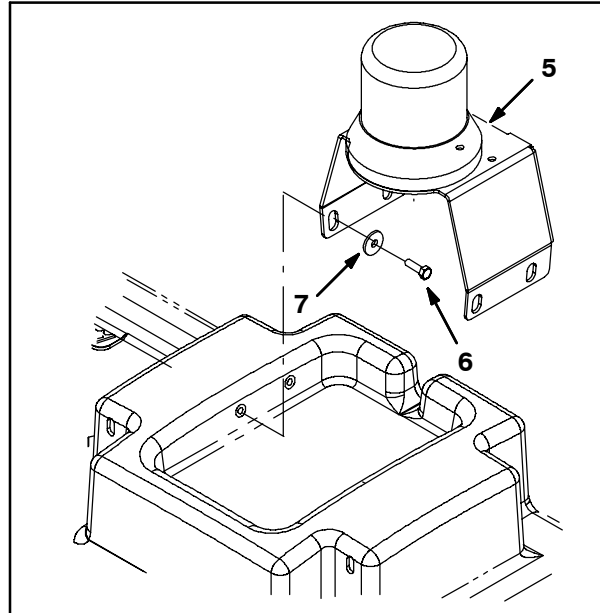

FIG. 5
5. Use three hex screws (6) and three flat washers (7) to install the light support bracket (5) onto the solution tank. Refer to Fig. 5.